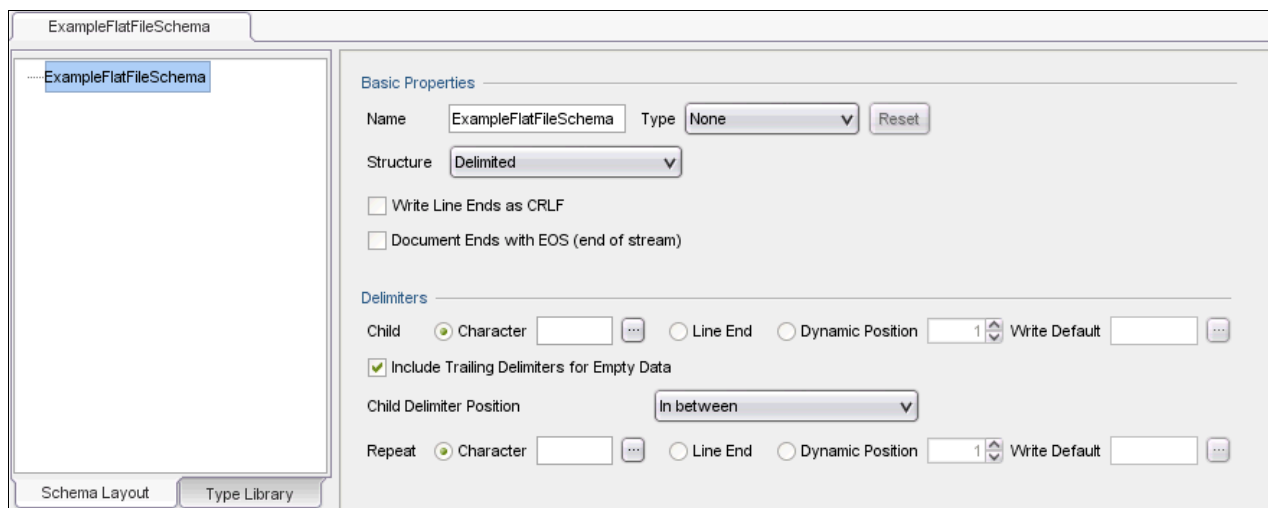

Figure 3-102 The Flat File Schema editor for schema ExampleFlatFileSchema
2. Enter a name, and click **OK**. The Flat File Schema editor opens in the workspace, as shown in Figure 3-102.
The Flat File Schema editor also contains a testing tool that is displayed in Studio below the panes shown in Figure 3-102. This tool is described in 3.12.2, “Test Flat File Schema” on page 160.
The name of the Flat File Schema in Figure 3-102 is ExampleFlatFileSchema. The white pane on the left of the Flat File Schema editor is the Schema Layout pane. A new schema contains only one node in its Schema Layout which is the *Root Node*. Every Flat File Schema has exactly one Root Node. In Figure 3-102, the Root Node is called ExampleFlatFileSchema. The Root Node is given the same name as the Flat File schema by default, but you can change this name using the node properties.
The properties for each node that is selected in the Schema Layout pane displays on the right of the Flat File Schema editor. In Figure 3-102, the Root Node is selected. So, the properties that display are for the Root Node.